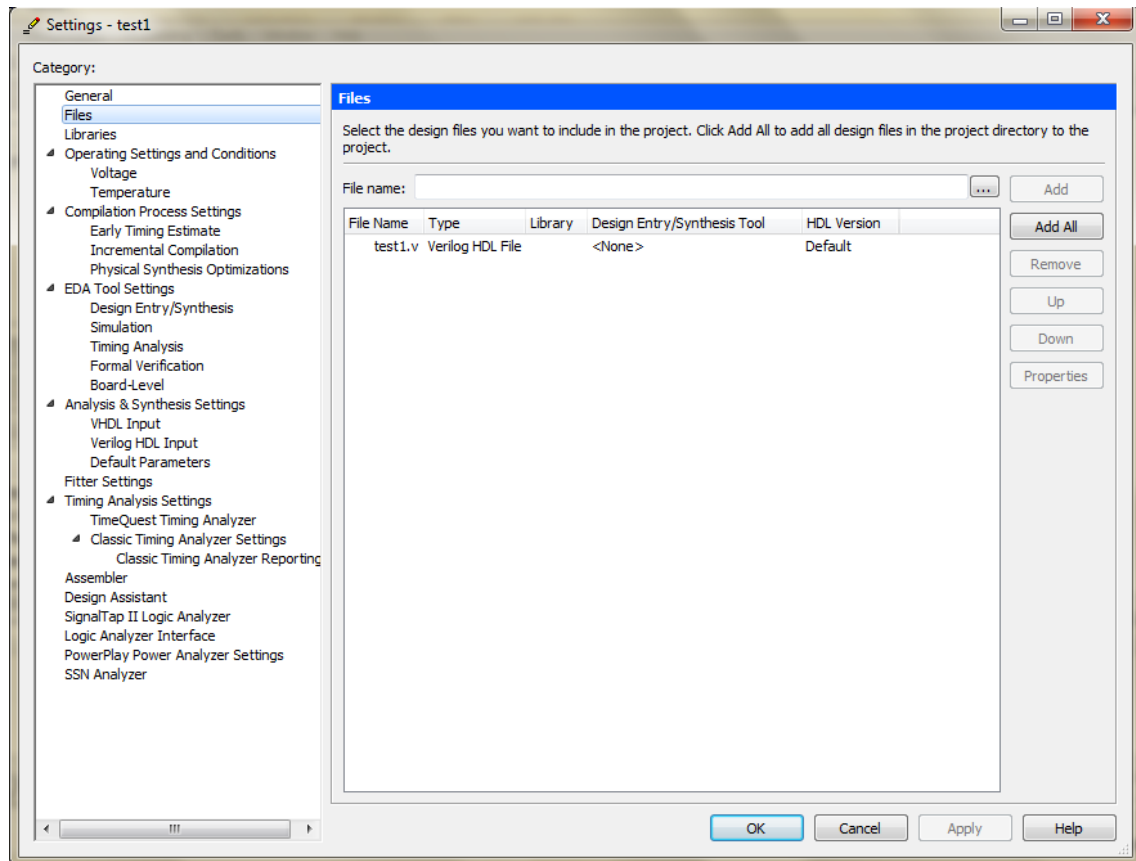

Figure 17. Settings window
- Click **Assignments > Settings**, which leads to the window in Figure 17